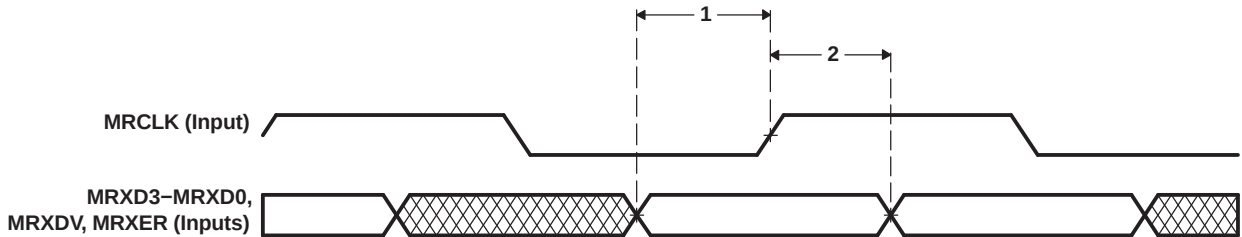

Figure 6-41. EMAC Receive Interface Timing
**Table 6-77. Timing Requirements for EMAC MII Receive 10/100 Mbit/s(1) (see Figure 6-41)**